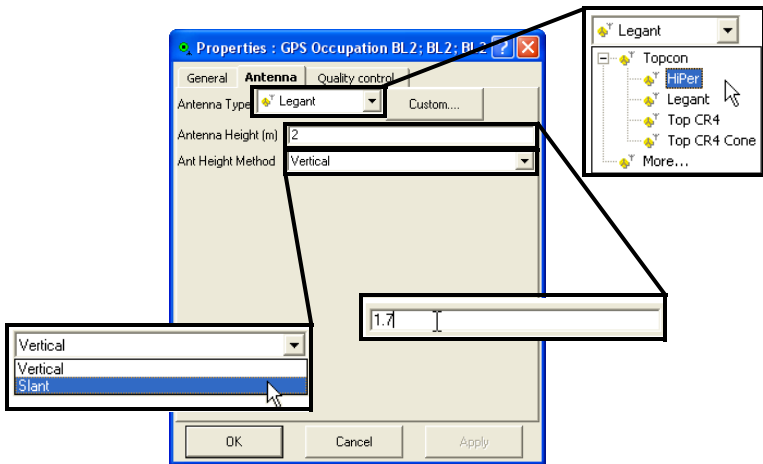

Figure 5-5. Enter New Parameters
- On the *Antenna* tab and change the *Antenna Type*, *Antenna Height*, and *Ant Height Method* as needed (Figure 5-5 on page 5-9).